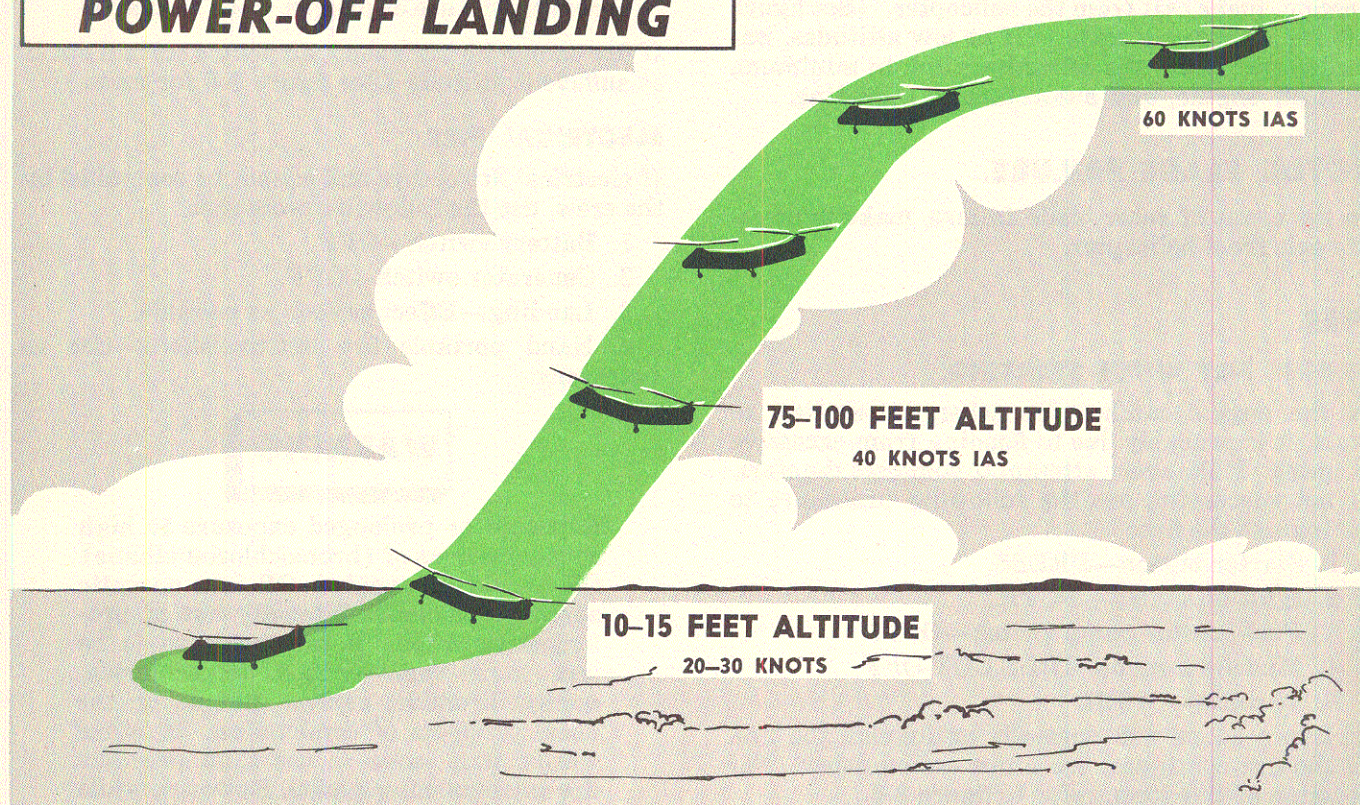

Figure 3-4
- b. Airspeed—Diminish to 20–30 knots IAS. (The altitude at which the airspeed is decreased is dependent upon the vertical speed and the forward speed.) Do not increase collective pitch until recovery is begun. See figure 3-4 for technique.